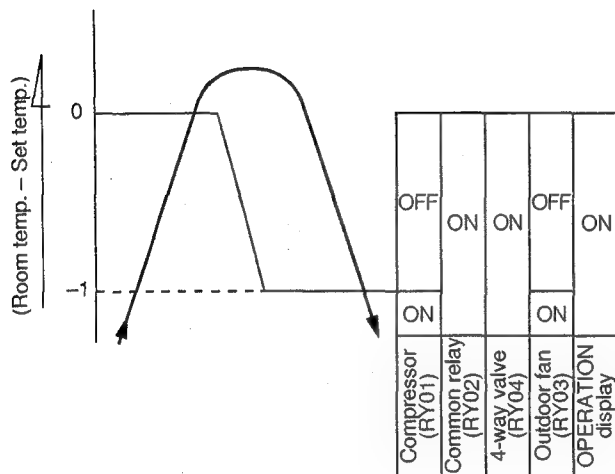

Fig. 7-4-1
- (1) Compressor, 4-way valve, outdoor fan and operation display are controlled as shown in Fig. 7-4-1.